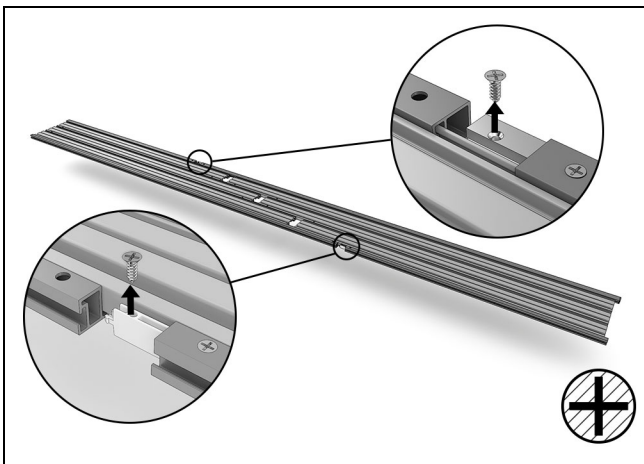

Figure 21
5. Remove the screws from the splice keys. See Figure 21.